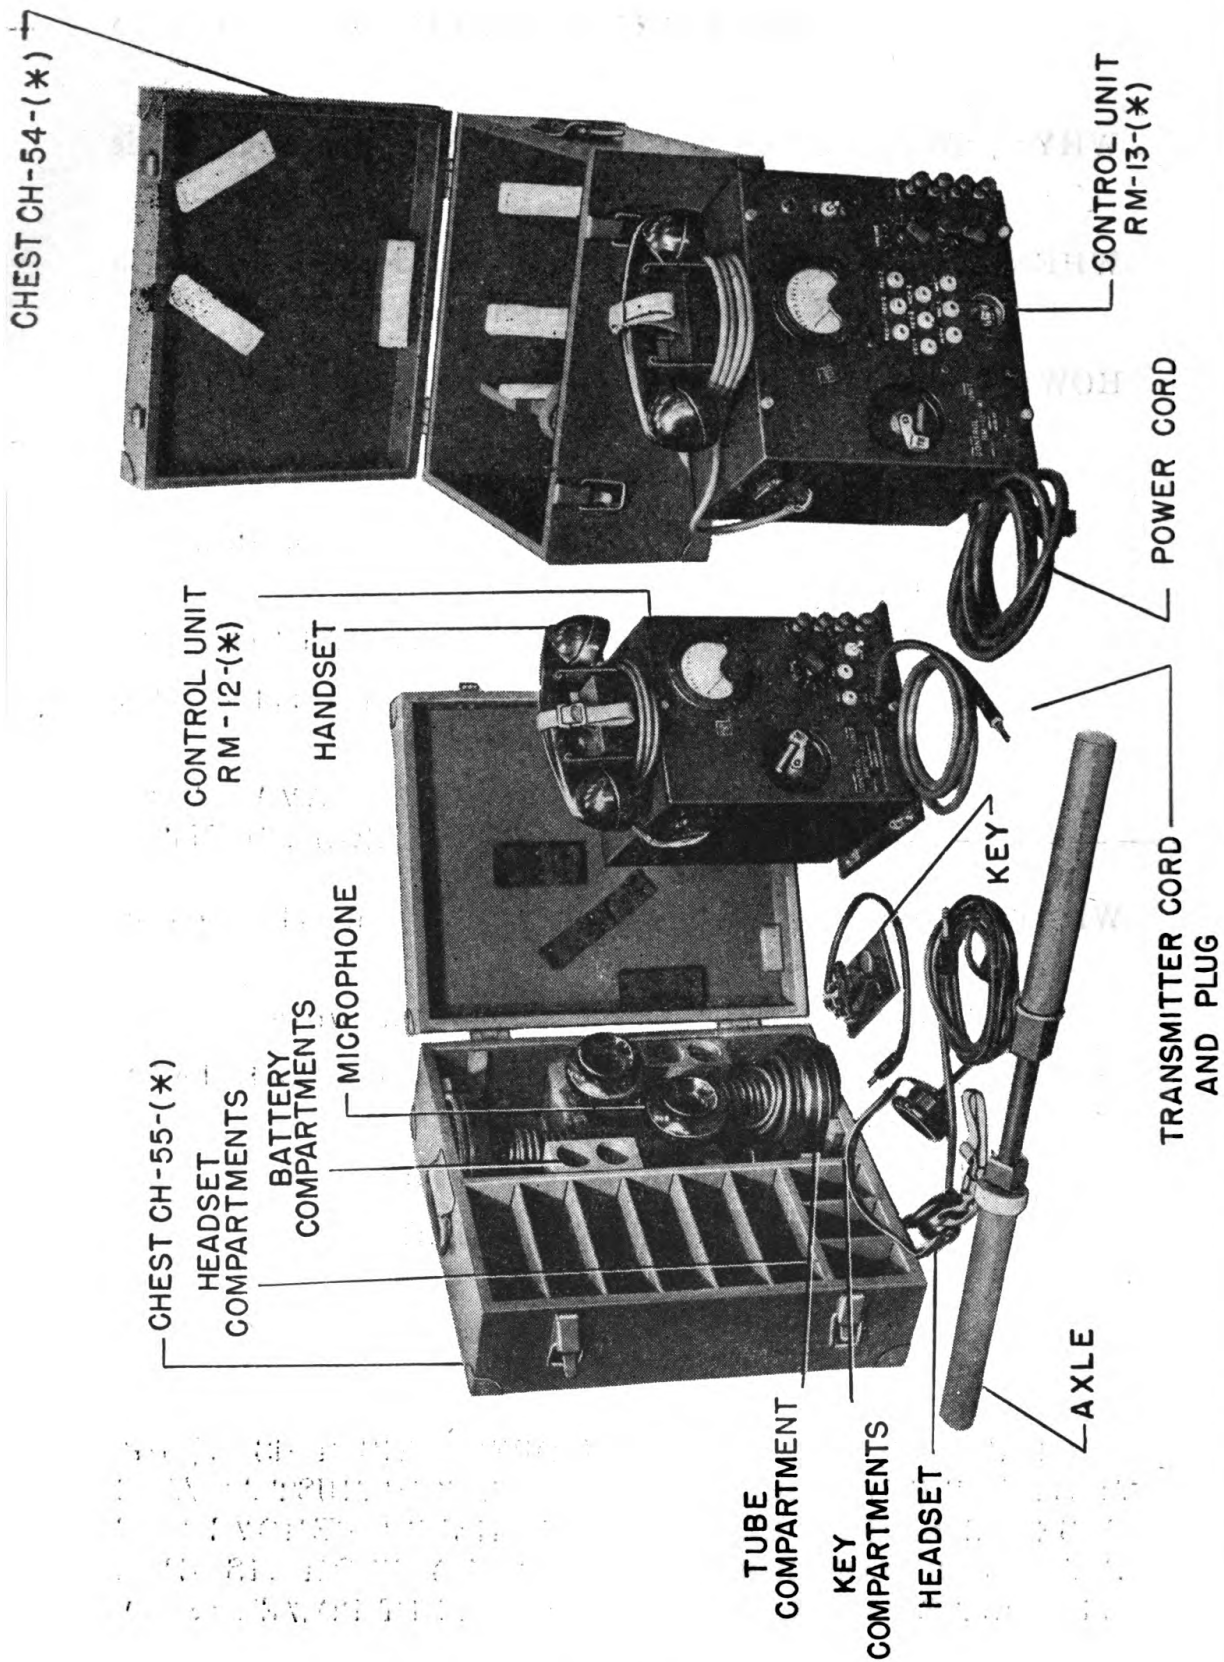

Fig. 1—Remote Control Equipment RC-47-(*)
a. Remote Control Equipments RC-47-A, RC-47-B, RC-47-C, RC-47-D, and RC-47-G, (figure 1) are used with Radio Transmitter BC-191-(*). You can operate the transmitter with any of these equipments on phone, c w, or tone from the transmitter location or from a remote point. These equipments also permit telephone communication between the local and the remote operators.